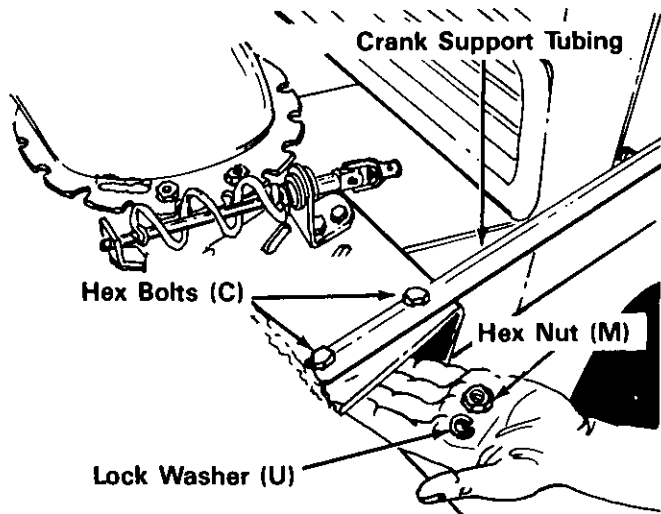
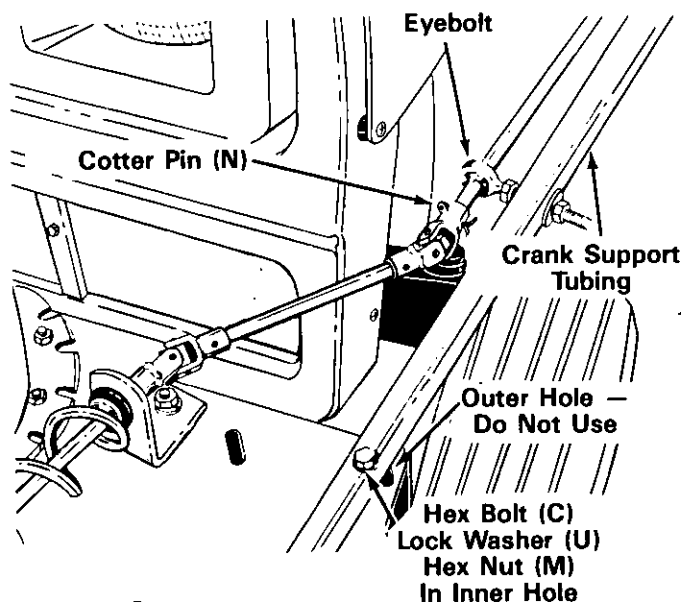

FIGURE 17
FIGURE 18
23. Assemble the crank support tubing to the snow thrower housing, using the inner hole in the housing as shown in figure 18. Secure in place with two hex bolts (C), lock washers (U) and hex nuts (M). See figure 17. An adjustable wrench and 1/2" wrench are required.
24. Slip the end of chute crank rod through the grommet in eyebolt and into the universal joint. Secure with cotter pin (N). See figure 18.